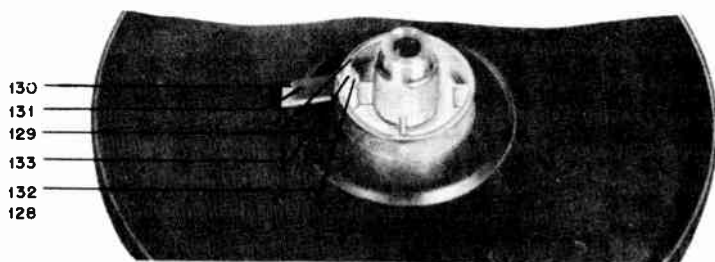

Figure MT12.
ADJUSTMENTS (Figure MT12)
4. Reject: (Figure MT12). If record changer rejects too soon or fails to reject, proceed with the following adjustments: (a) remove turntable. (Lift straight up); (b) bend bracket 130 downward slightly if changer rejects too soon; (c) bend bracket 130 upward slightly if changer does not reject, or rejects too late. Any further adjustments for faulty rejecting cannot be done in the field.